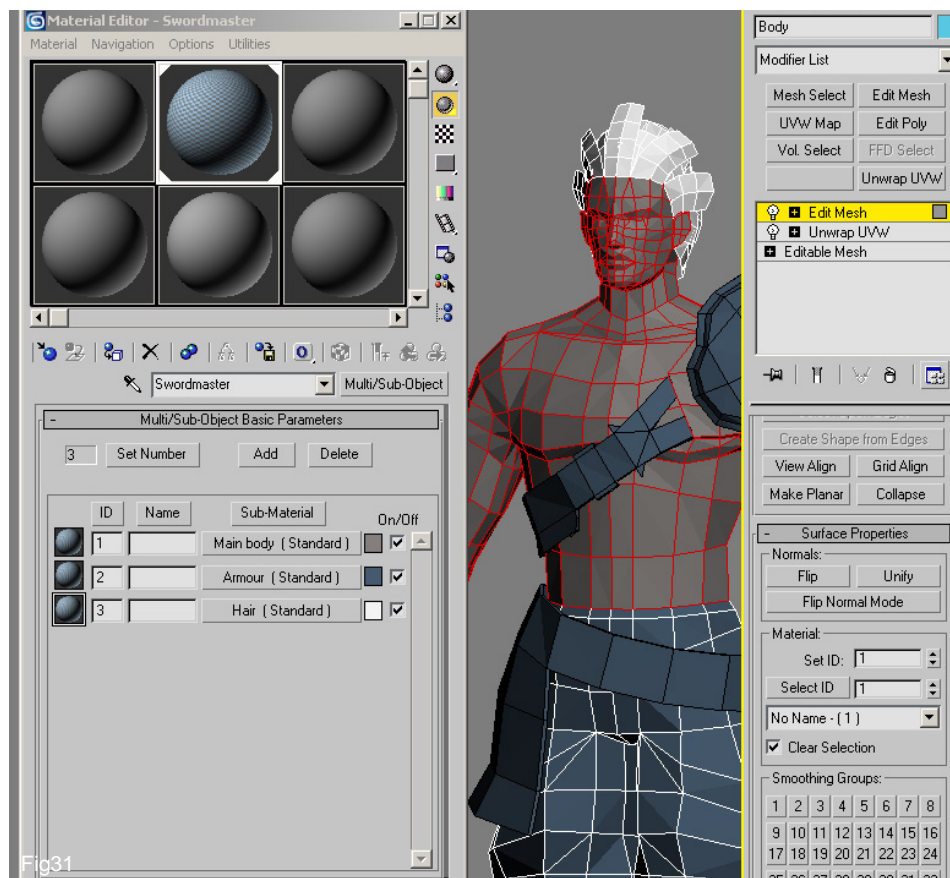

Fig31
31. Now name these accordingly as shown in Fig 31. You can also change the colour of the materials by clicking on the small colour swatch on the right so you can easily identify each one on the model. On the left of the labels is an ID column and this corresponds to an ID number that is assigned at the sub-object poly level. You can see that ID 1 represents the main body, 2 is the armour and 3 will be assigned to the hair. Now we need to select each of the meshes that make up our character and assign the appropriate numbers. So in sub-object poly mode select all the poly's that make up the body and then scroll down to the Surface Properties –Material and choose 1 next to Set ID. These should now adopt the colour schemes in the editor (in this case grey). Go on and assign the rest of the ID numbers to the model as indicated in the picture. If you wish to select all poly's of a certain ID number then use the spinner arrows in the Select ID box and then click on the tab next to it.